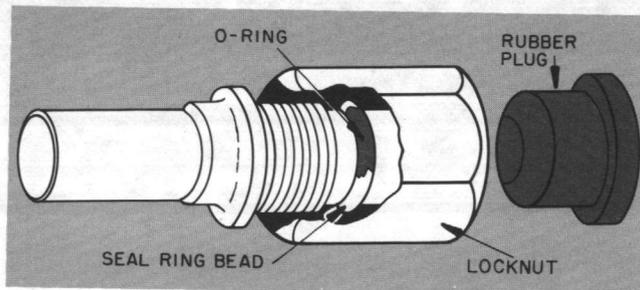

Fig. 6 — Carrier Compatible Fitting
1. Loosen locknut on Compatible Fitting one turn. Do not remove. See Fig. 6.
1. Remove locknut, and rubber O-ring from inside of Compatible Fitting. Refer to Fig. 6.